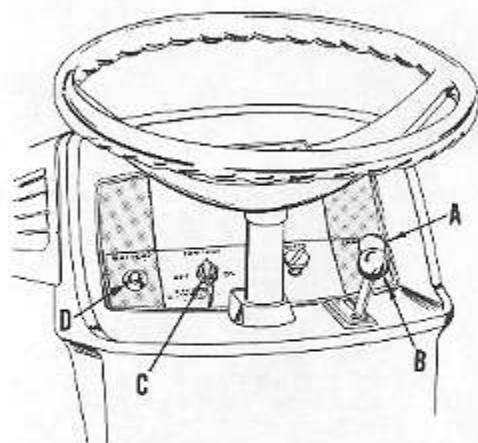

FIG. 10
4. Pull out choke control (A, Fig. 10), to full choke position to start in cold weather.
5. Advance throttle control lever (B, Fig. 10), to about $\frac{1}{2}$ throttle.
6. Turn ignition-starter key (C, Fig. 10), clockwise to engage starter. When engine starts, release key. After engine starts, push in choke control (A, Fig. 10), as engine warms up. Let engine warm up before applying load.
CAUTION: Do not run starter continuously for more than 30 seconds at a time. If after several attempts, engine does not start, move throttle control lever (B, Fig. 10), to FAST position. Wait for two minutes and try again.
7. Warning light (D, Fig. 10), will flash on when battery is not charging and ignition switch is on.
8. To stop engine, turn key (C, Fig. 10), in a counter-clockwise direction to off position. Key should be removed so children can not start tractor.